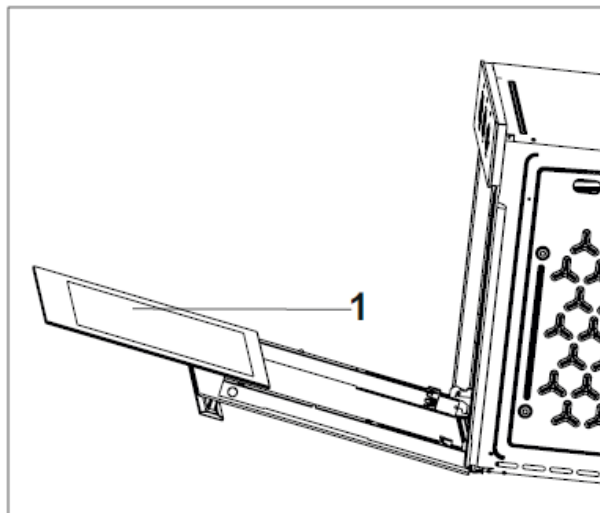

Fig. 30
- Remove the internal glass of the appliance to clean it (Fig. 30).